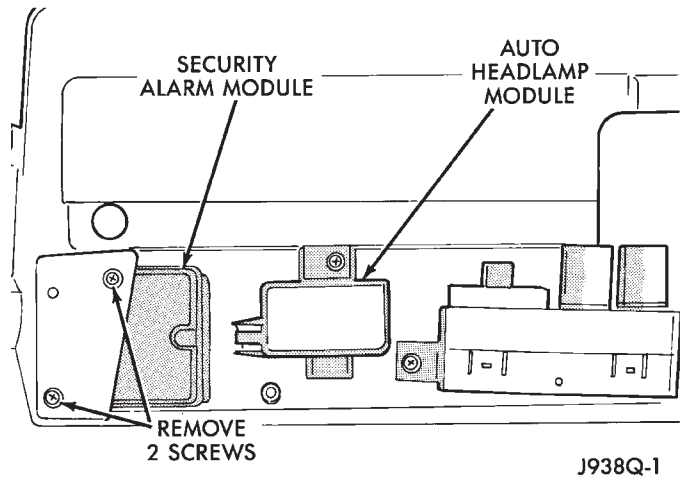

Fig. 8 SAM Module Removal/Installation
(15) Remove side window demister boot from glove box bezel.
(16) Remove right side bezel from instrument panel.
(17) Unplug glove box light and switch connector.
(18) Remove 2 screws holding SAM module to instrument panel (Fig. 8).
(19) Pull module out and unplug connector.
(20) For installation, reverse the removal procedures.